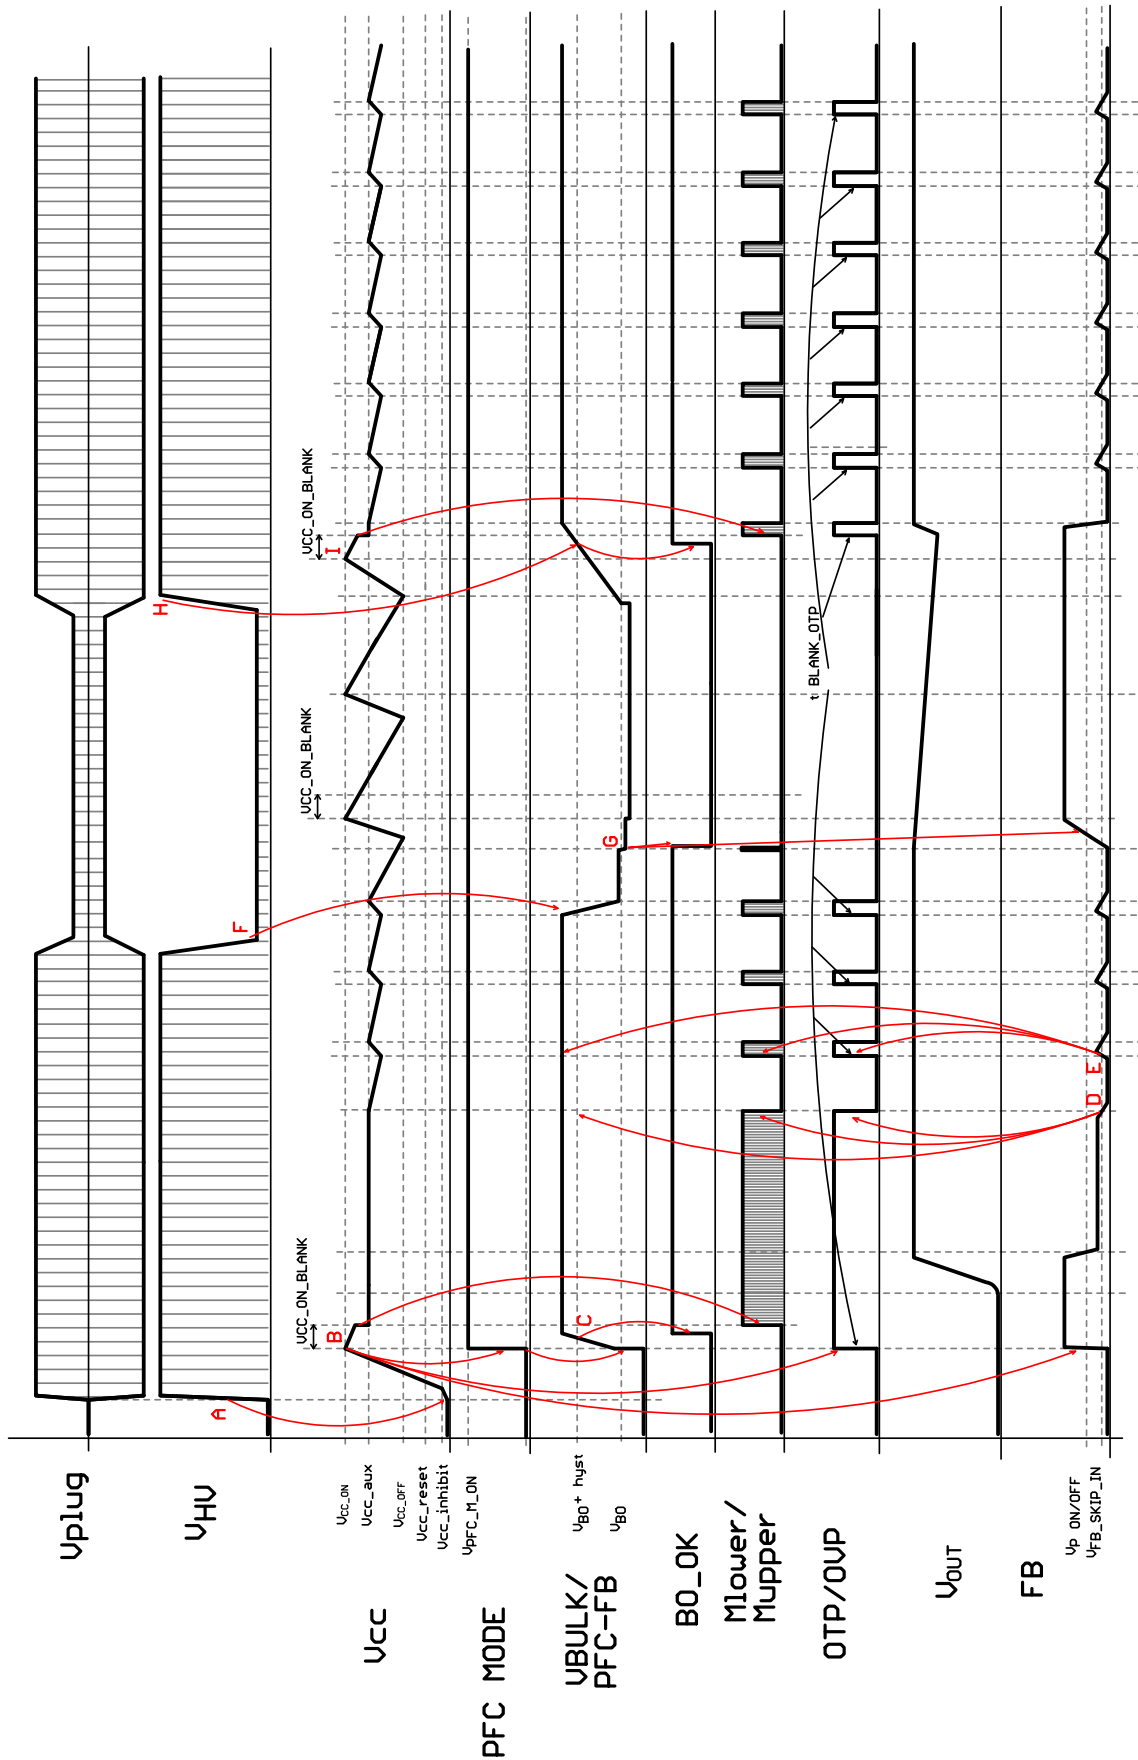

Figure 25. Startup, Skip-mode Operation, Low Line Detection and Restart into Skip
**3. Startup, skip-mode operation, low line detection and restart into skip-mode – Figure 25**